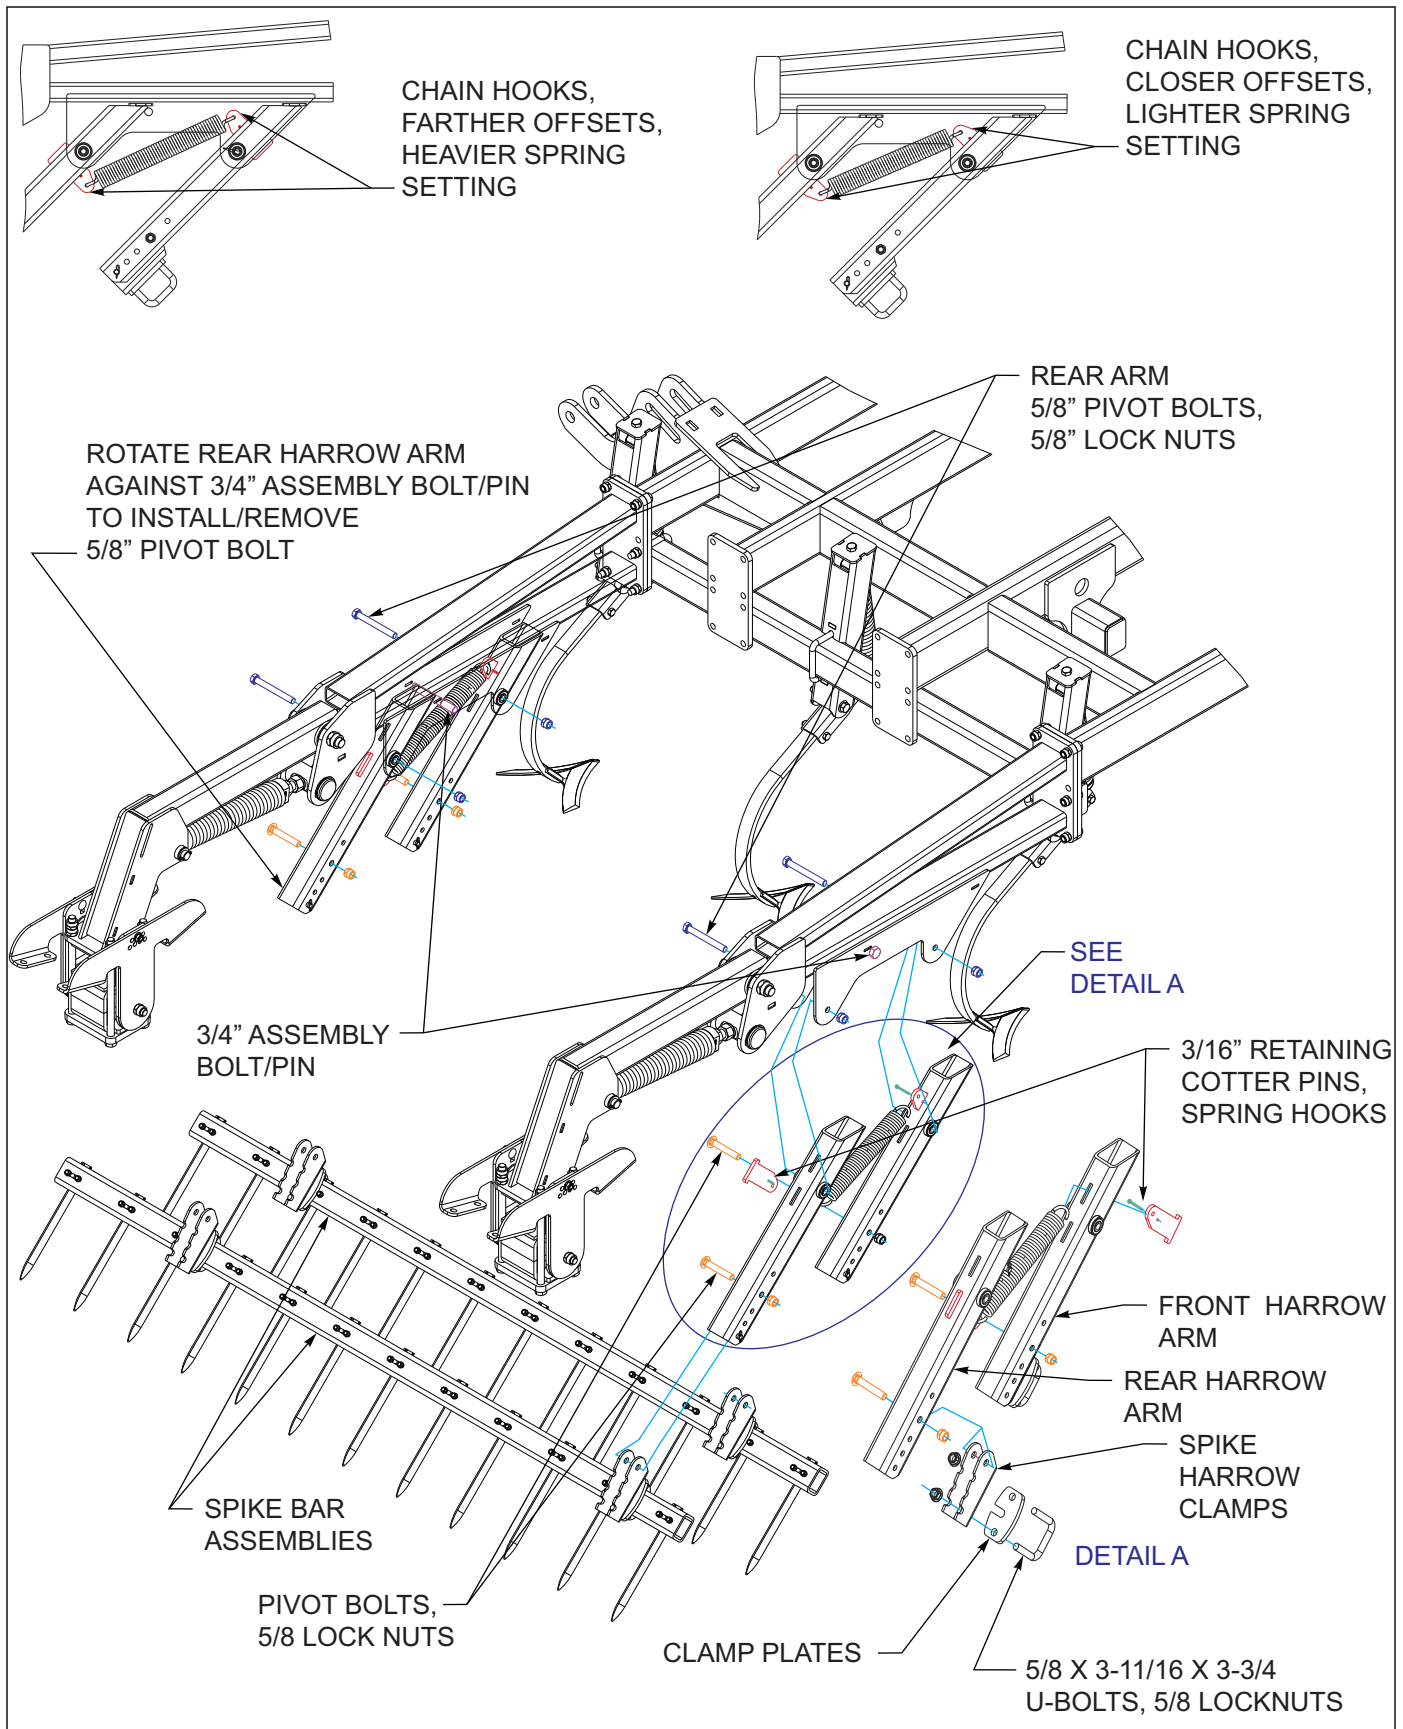

Figure 4-26: Spike & Double Reel Adjustments
4. The chain hooks on the spike bar arms are offset to allow the spring pressure to be changed *See Figure 4-26*. The heavier setting should work for most conditions. To change the spike harrow spring pressure, first remove the pivot bolt through the spike harrow clamp and lower both spike bars for each section to the ground. Insert a $\frac{3}{4}$ " bolt/pin (not provided) through the harrow arm assembly hole.